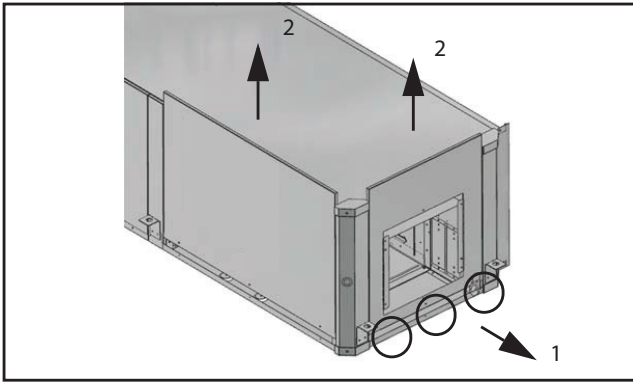

Fig. 27 - Side Panel Removal
1. Remove and retain end and side panels. See Fig. 27.